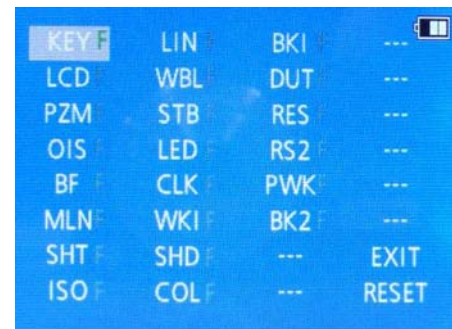

Fig.3-2
1. After pressing the [DISP.] button", the LCD monitor displays the Flag status screen (Refer to Fig.3-2)